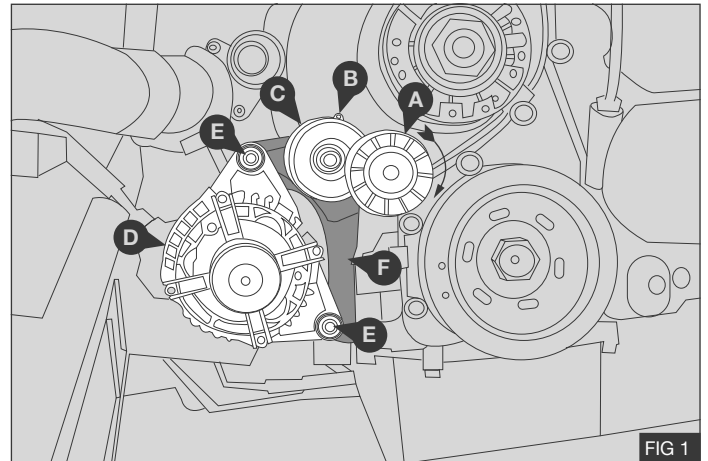

FIG 1
4. Using a suitable tool rotate the automatic belt tensioner pulley **A** clockwise and insert a suitable 4mm pin, an Allen key is ideal for this purpose at position **B** - Fig.1
7. Remove the alternator **D**, retain all the alternator securing fixings **E** - Fig 1
8. Remove alternator mount bracket **F** from the engine block - Fig 1
9. Remove the automatic belt tensioner **C** from the alternator mount bracket **F** - Fig 1
10. Retain the automatic belt tensioner **F** and securing bolt - Fig 1